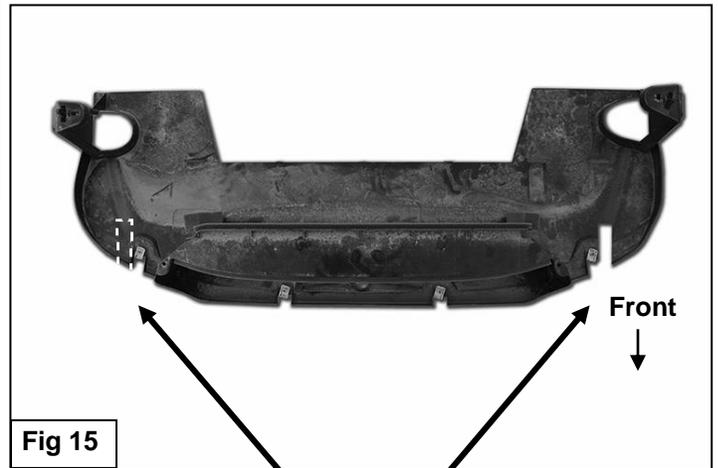

Fig 15
11. Hold the plastic splash guard up to the bottom of the Mounting Brackets, **(Figure 14)**. Trace the location of the Brackets onto the inside of the plastic cover. Use a sharp knife or hacksaw blade to cut out the sections from the cover, **(Figure 15)**. Reinstall the splash guard using the factory hardware.
12. Reinstall the license plate bracket over the Support Bracket. On models with bracket held on with rivets, use the included (3) ST6x20mm Screws to reattach the license plate bracket.